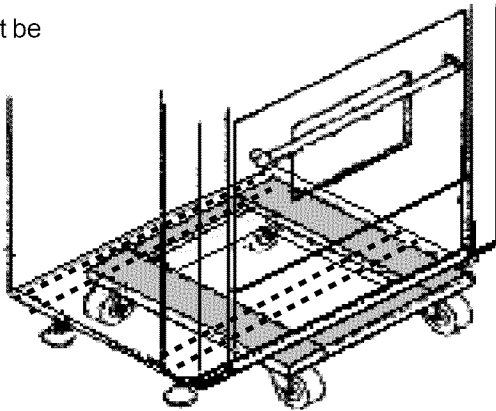

Figure 6: Dolly Positioning
- Due to the weight, a furniture dolly with soft wheels or an air lift should be used to move this unit. The weight must be supported uniformly across the bottom (Figure 6).